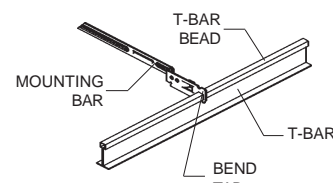

FIG.7
4. Position notched area of mounting bars onto T-Bar and lock by bending tab underneath T-Bar bead as shown. (Fig.7)